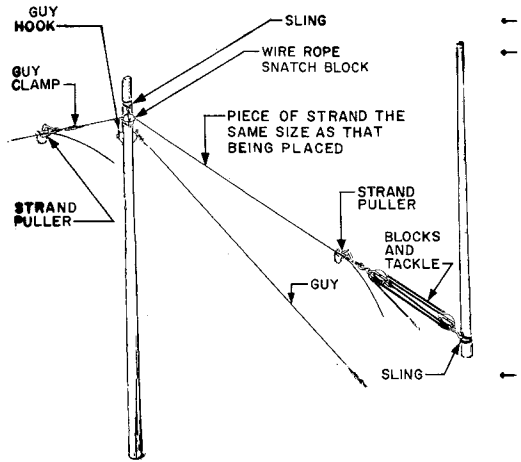

Fig. 6 - Pulling Up Strand - Block and Tackle Method
4.08 Where blocks and tackle are used, they should be rigged as illustrated in Fig. 6.